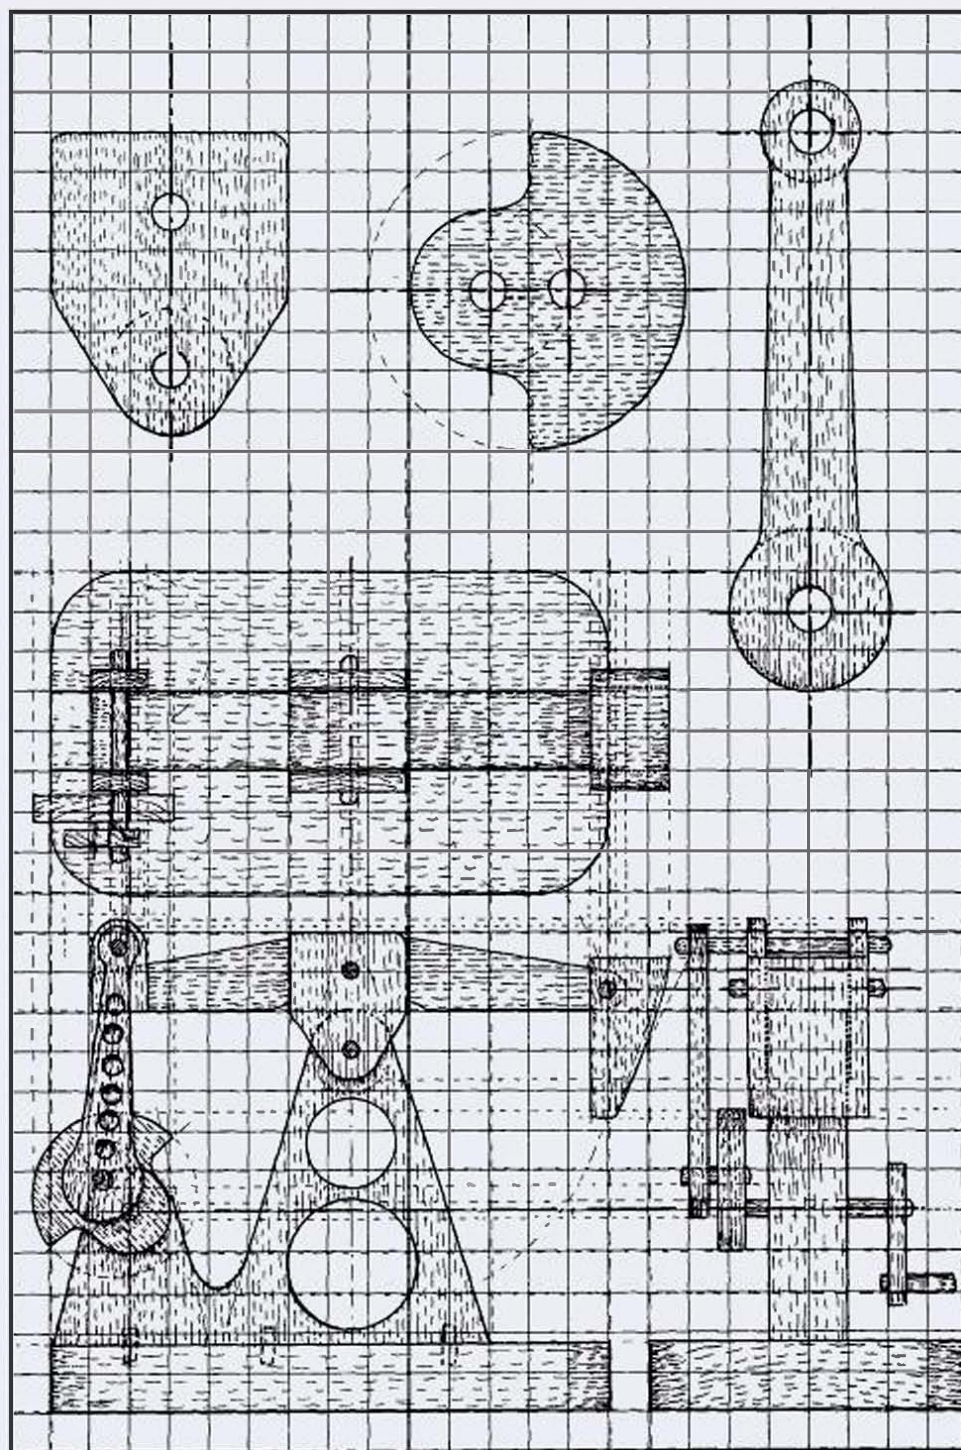
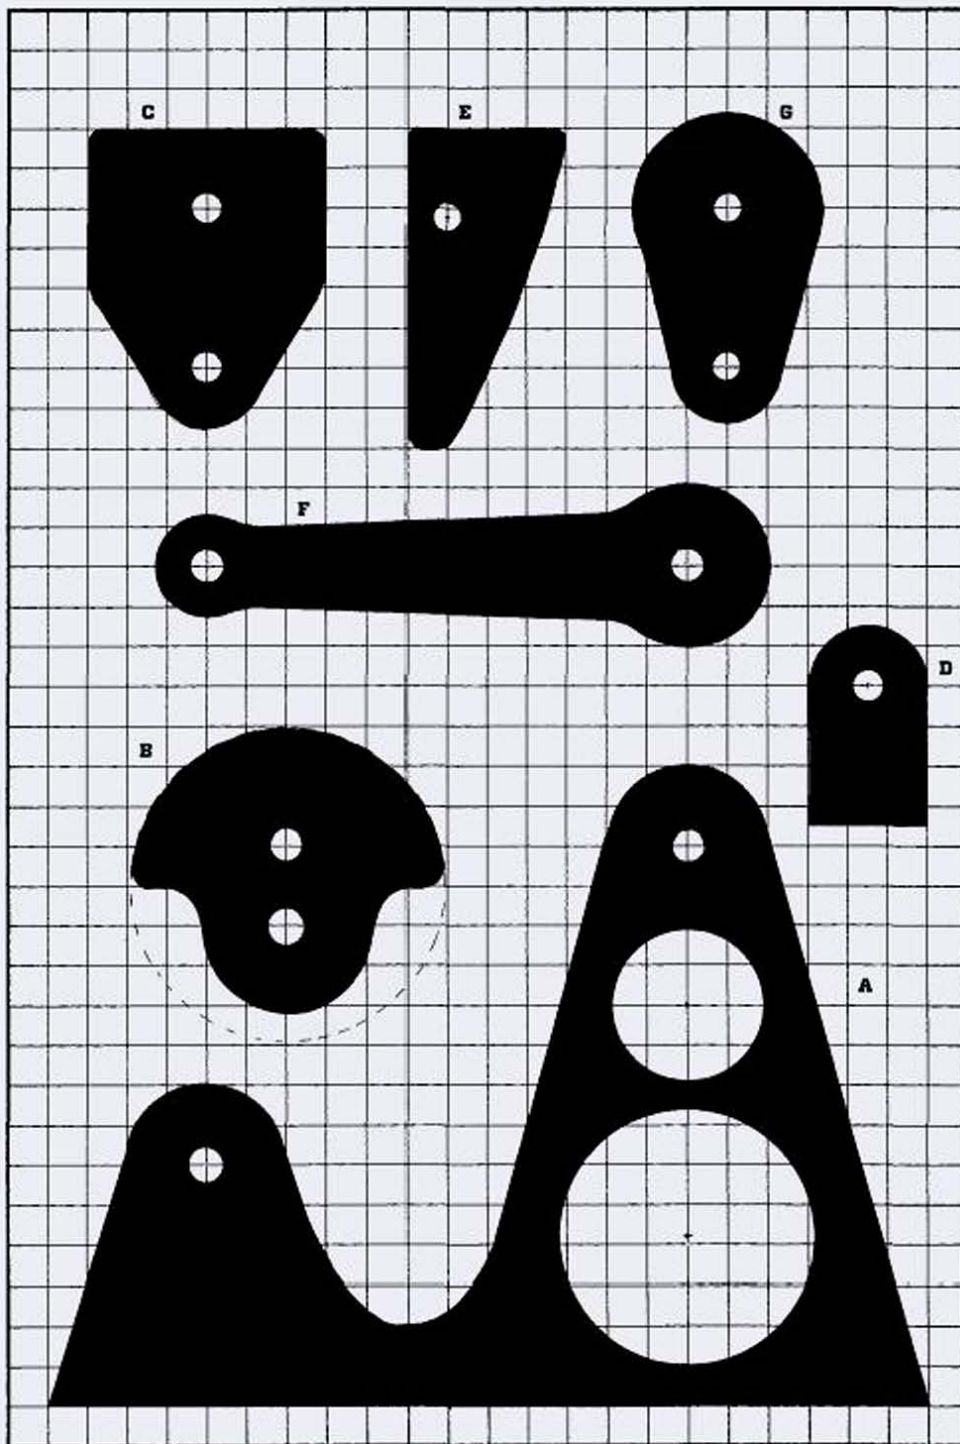

FIGURE 7-1
FIGURE 7-2
Have a look at the project picture (right), the working drawing (Fig 7-1) and the templates (Fig 7-2), and note that the
- 1 Having spent time studying the working drawing (Fig 7-1) and the templates (Fig 7-2), bringing your tools to good order, and generally making sure your chosen wood is in tip-top condition, draw the design to size and make a clear tracing.
1 Before you put tool to wood, cast your eyes over the working drawing (Fig 7-1) and templates (Fig 7-2), and see how various plates and parts come together. Note how the pivot plates at the tail and center of the beam are cut and worked in pairs and pinned and glued at either side of the beam, while the donkey head is made up of three layers and loose pivoted on the end of the beam.
1 Have a look at the working drawing (Fig 7-1) and templates (Fig 7-2), and see how the connecting rod needs to be cut and worked. Note that the row of blind holes is no more than a decorative feature.